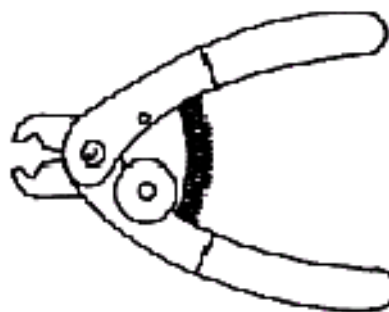

Figure 16. V-Notch Stripper
21. **V-Notch Stripper.** V-notch stripper model both strips and cuts solid and stranded copper and aluminum wire from AWG 10 to 28. Features a convenient dial-type adjustment. Its primary application is construction/maintenance production (Figure 16).